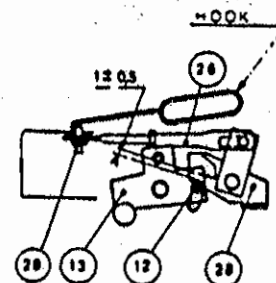
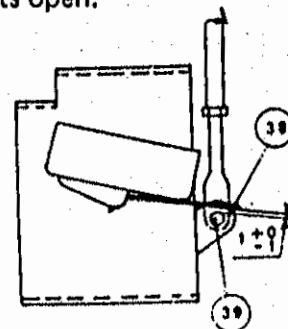

Fig. 17
Fig. 21
A. Tripping (Fig. 17 and 18)
- 1) Adjustment. Place breaker in open position and unscrew adjusting reset screw (30). With release bar in latched on position resulting from breaker being in open position, adjust linkage (26) to provide 1 ± 0.5 mm (0.039 ± 0.020 inch) between lever (28) and lug (12) of the latch (13).
A. Limit switch for Latch Indication. Place bar in latched position as shown in Fig. 17 and 18. In this position, the limit switch contacts will be closed. Deform strip (38) Fig. 21 to provide a maximum gap setting of 1 mm (0.039 inch) between strip (38) and lug (39).